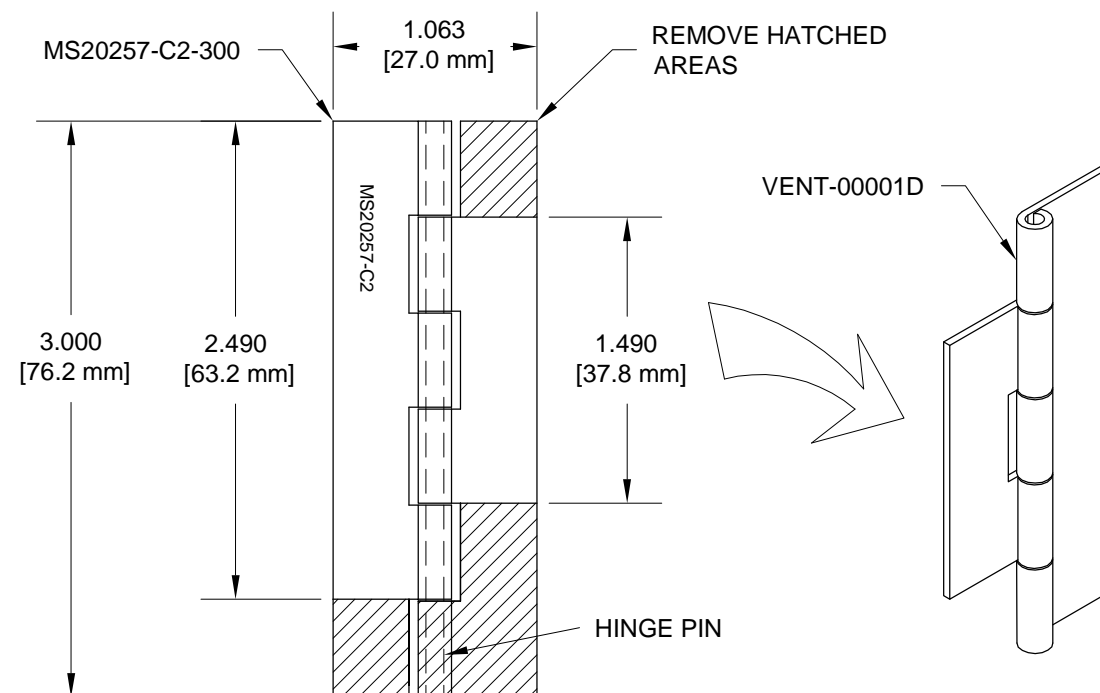

FIGURE 1: FABRICATE HINGES
Step 1: Fabricate two VENT-00001D Vent Hinges from MS20257-C2 Stainless Steel Hinge raw material using the dimensions given in Figure 1. Trim the hinge pins to the length of the finished parts and insert.